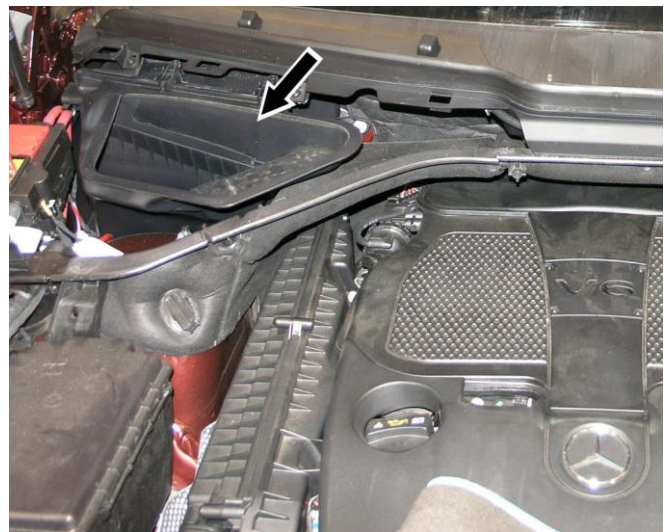

Figure 2
3. Unclip cabin filter air duct (arrow, Figure 2) and remove air duct (arrow).